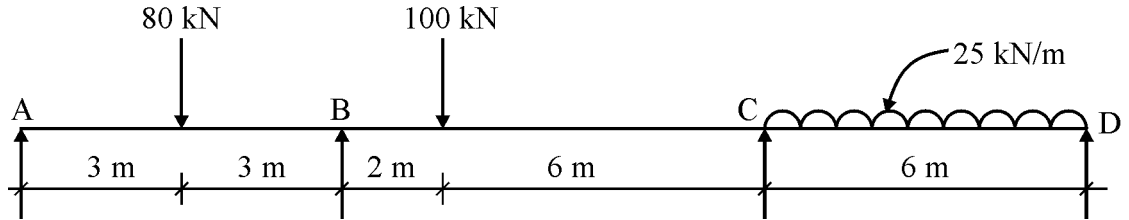

Fig. No. 2
- (c) A continuous beam ABCD is loaded as shown in fig. No. 2. using moment distribution method. Find the support moments and draw B.M.D.